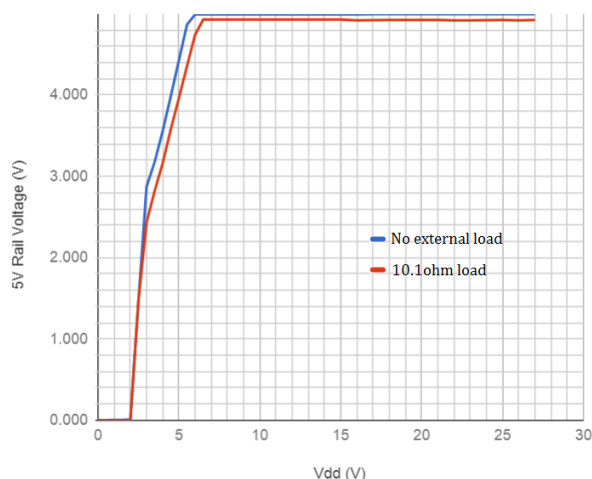

Figure 1.1. **5V** rail dropout voltage
**Note 2:** See Section 1.3.1 (Figure 1.1. 5V rail dropout)